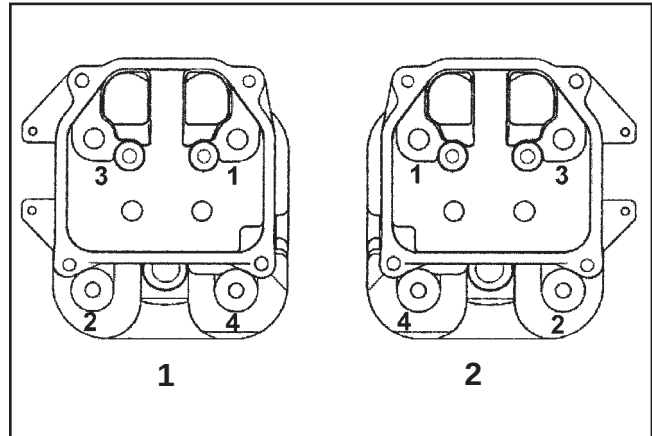

Figure 10-46. Cylinder Head Fastener Torque Sequence.
4. Torque the hex flange screws in two stages; first to **22.6 N·m (200 in. lb.)**, then finally to **41.8 N·m (370 in. lb.)**, following the sequence in Figure 10-46.